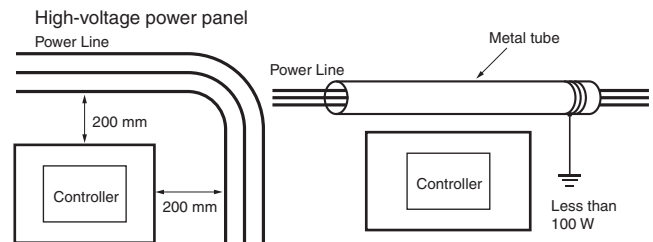

Figure 11. Example of Isolating Controller from Power Line
- (6) Install the Controller at least 200 mm from any high voltage or power lines, or make sure that the high current and power lines are contained within metal tubing, and ground to a resistance of 100 W. (See Figure 11)